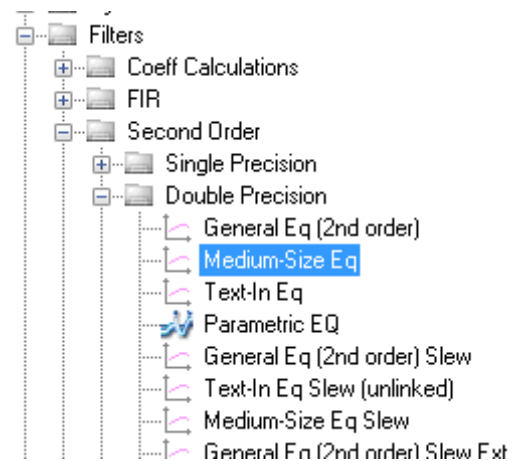

Figure 49. Adding a **Medium-Size Eq** Component
1. Add a **MidFilter1** block by clicking the **Medium-Size Eq** component from the **Filters > Second Order > Double Precision** folder (see Figure 49), and then dragging it to the project space.